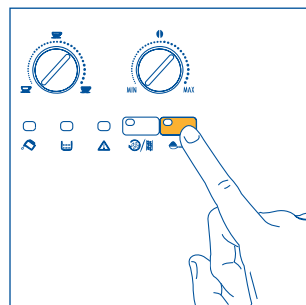

Fig. 18
1. Press the ☞ button to select the ground coffee function (Fig. 18). The light inside the button switches on to indicate that the function has been selected and the coffee grinder has been disabled.